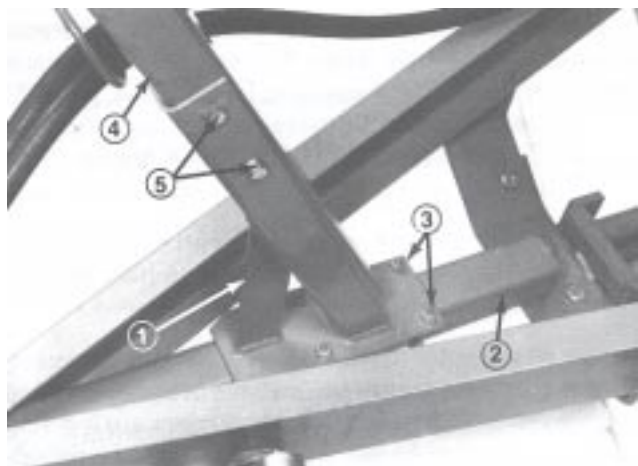

Figure 5
1. Loosely secure lower control tower to center frame tube with (2) U-bolts and (4) 3/8-16 flange nuts (Fig. 5).
2. Mount upper control tower to lower control tower with (2) 3/8-16 x 2-3/4 capscrews and (2) 3/8-16 flange nuts (Fig. 5).